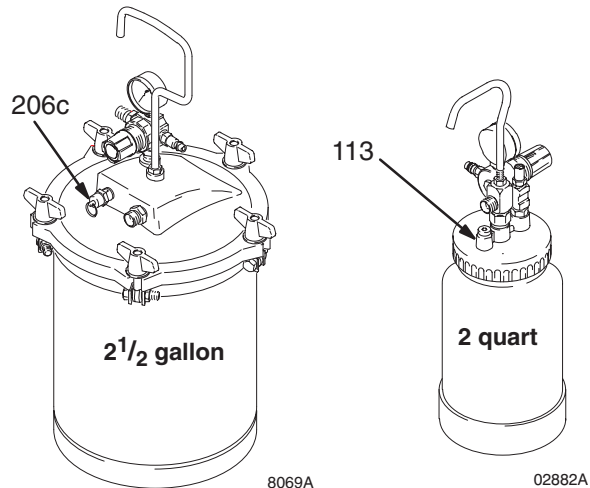

Fig. 12
Turn **out** pressure relief knob (113) about one turn. Wait until pressure is completely relieved before removing cover. Close knob. See Fig. 12.